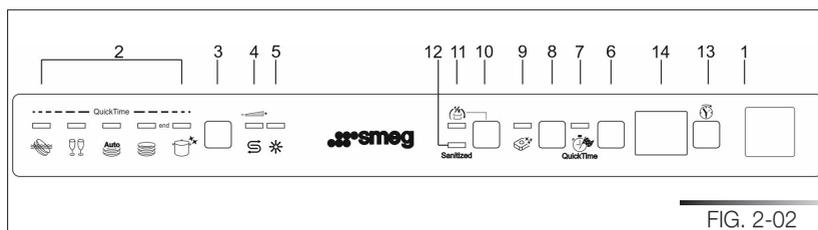

FIG. 2-02
The dishwasher is equipped with a control panel (see fig. 2-02) which is used to program the appliance and switch it on and off.
To run programmes **6, 7, 8, 9, 10**, select the required standard programme and then press the **quick time option button** (ref. 6 fig. 2-02).
Press the on/off button (ref. 1 fig. 2-02) to start the dishwasher. Then wait for one of the **program indicator lights** to turn on (ref. 2 fig. 2-02).
- Press the **program selection button** (ref. 3 fig. 2-02) several times until the indicator light corresponding to the required program turns on (ref. 2 fig. 2-02);
- To cancel the current program, open the door and press and hold down the **program selection** button (ref. 3 fig. 2-02) for a few seconds until the indicator lights of the fourth and fifth programs turn on (ref. pr. 4, pr. 5 fig. 2-03).
The “**Program delay**” function delays the beginning of the washing program up to 24 hours from the moment in which programming takes place. This makes it possible to use the dishwasher at a certain time of day. Before programming a delay, open the door of the dishwasher, select the required washing program (see para 2.2 “Setting the washing program and switching on and off”). Select the day by pressing the **Program delay** button (ref. 11 fig.2-02); each time you press the button, the display increases the delay before the appliance starts by **1 hour**.
At the end of the program, the dishwasher emits a short beep and the **indicator lights of the fourth and fifth program** (ref. pr. 4, pr. 5 fig. 2-04) flash. Turn off the appliance by opening the door and pressing the **on/off button** (ref. 1 fig. 2-02).